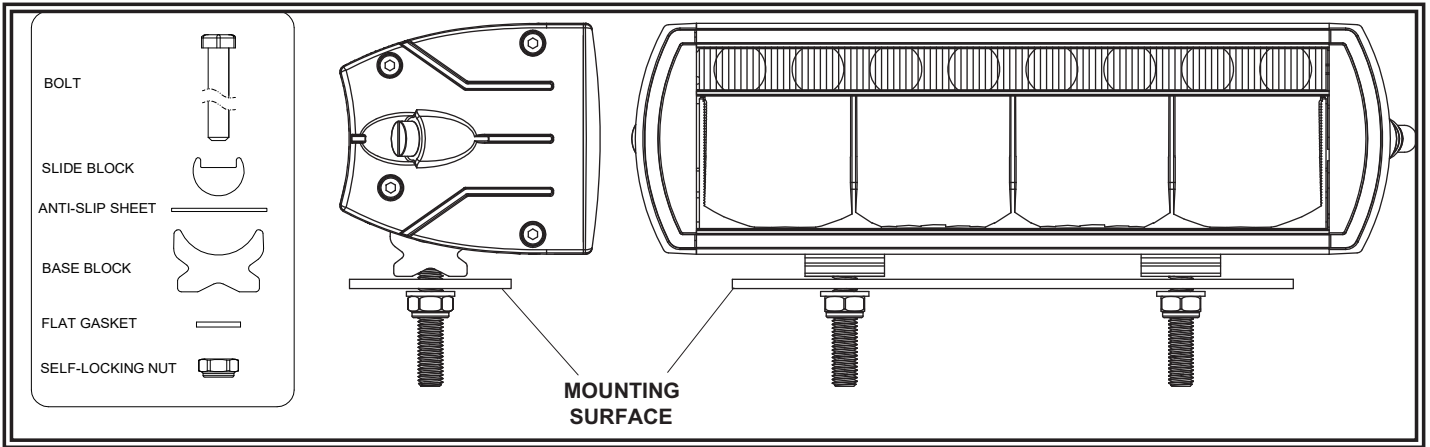

FIGURE 1
2. Secure the light head with the supplied hardware as shown in Figure 1.